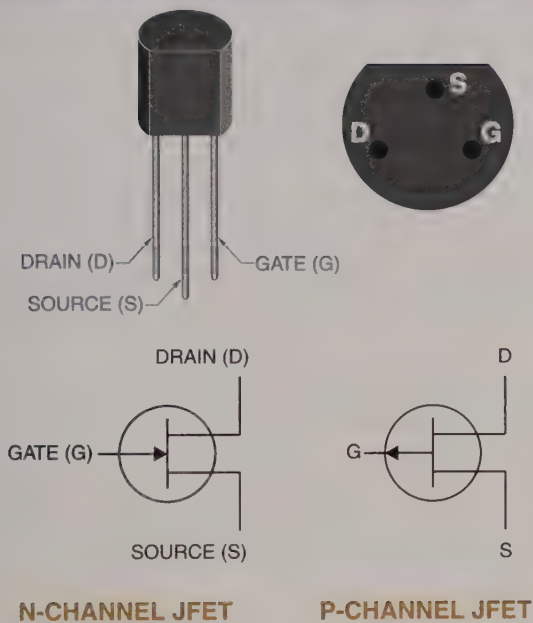

Figure 22-18. The arrow in a schematic symbol for an N-channel JFET points inward. The arrow points outward for a P-channel JFET.
A *junction field-effect transistor (JFET)* is a simple FET with a PN junction in which output current is controlled by an input voltage. The two types of JFETs include the N-channel and P-channel. A JFET, like all FETs, contains a gate (G), drain (D), and source (S). The gate is a control element, while the drain and source provide the same function as the emitter and collector on a bipolar junction transistor. See Figure 22-18.